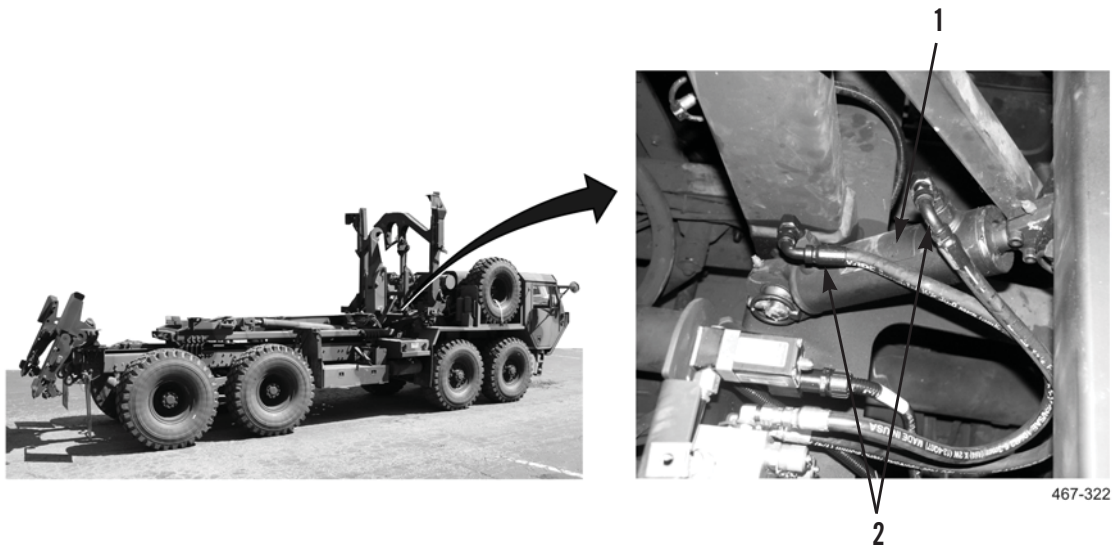

Figure 2. Stowage Guide Actuator Hose Removal.
5. Remove two hydraulic hoses (Figure 2, Item 2) from stowage guide actuator (Figure 2, Item 1).